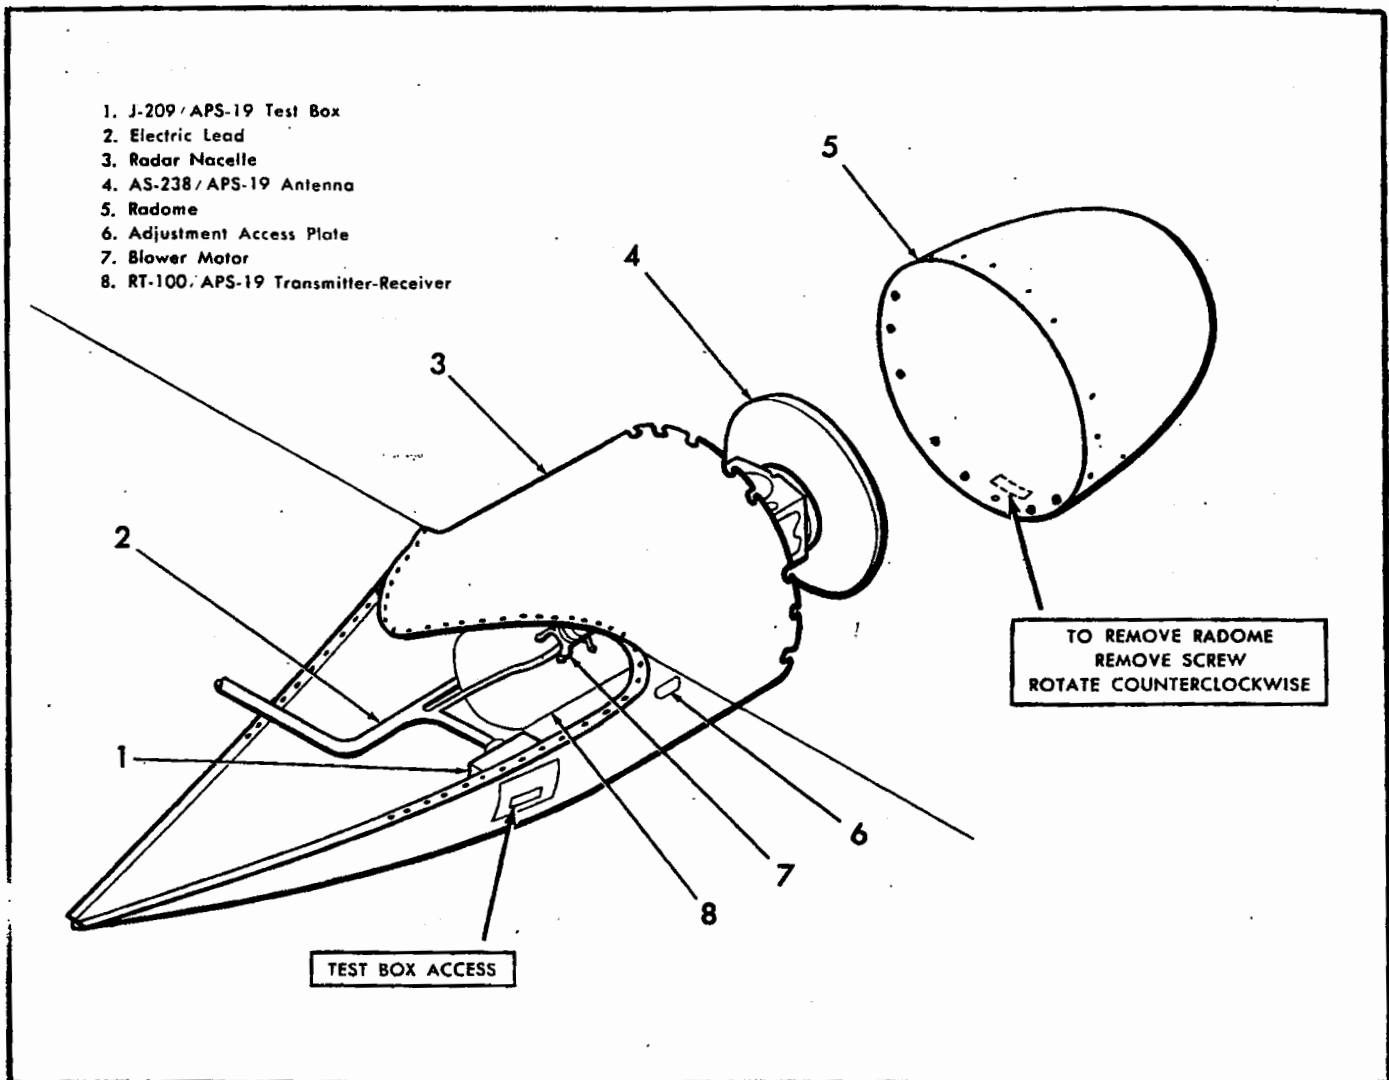

Figure A-19. Radar Nacelle with Radome Removed.
- a. Remove single screw located on bottom center line of radome. Rotate radome counterclockwise (facing aft) to free its studs from the nacelle locking slots. Pull radome off nacelle. (See figure A-19).
- c. Remove the upper and lower mounting bolts and nuts which secure the inboard antenna spider legs to the nacelle. Ease the tension on the outboard spider leg mounting points by loosening the bolt attachments. Rotate the antenna outboard. (See figure A-19.)
A-157. DESCRIPTION. (See figure A-19.) The radar nacelle is located on the outer right hand panel. It is faired into the wing and fastened by screws. The nacelle is aluminum with a removable plastic nose (radome). Contained in the nacelle are the AS-238/APS-19 antenna, the RT-100/APS-19 transmitter-receiver and the J-209/APS-19 test box.